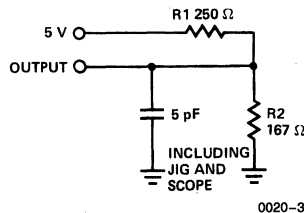

Figure 1b
3. Transition is measured at steady state HIGH level - 500 mV or steady state LOW level + 500 mV on the output from the 1.5V level on the input with loads shown in Figure 1b.
6. See Figure 1b for t_{HZ}.
5. Transition is measured at steady state HIGH level -500 mV or steady state LOW level $+500\text{ mV}$ on the output from the 1.5V level on inputs with load shown in Figure 1b.